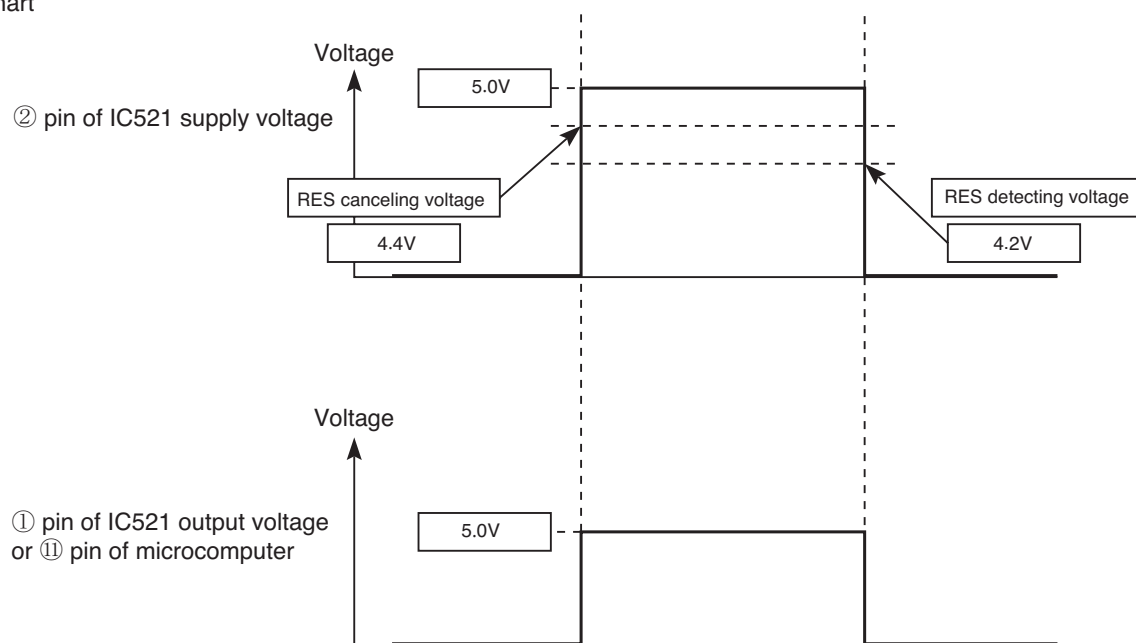

Fig.2-2
- Microcomputer operates when ⑪ pin of the indoor unit microcomputer (reset input) is "Lo" for resetting and "Hi" for heating.
- Waveform of each part when switching ON the power and when shutting down is shown in the Fig. 2-2.
- After switching ON the power, ① pin of IC521 supply voltage and ⑪ pin of microcomputer becomes Hi when DC5V line rises and reaches approximately 4.4V or higher.